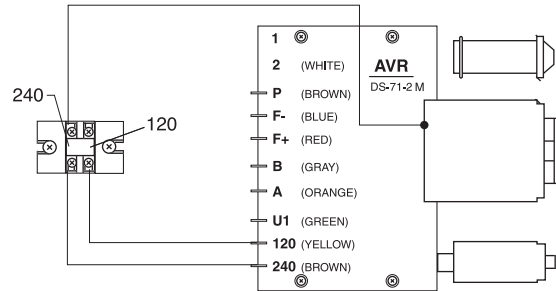

Figure 29: Control Terminal Board, 120/240 Volt Output
- a. Connect the control terminal board for 240 volts (Figure 29, also see page 30).